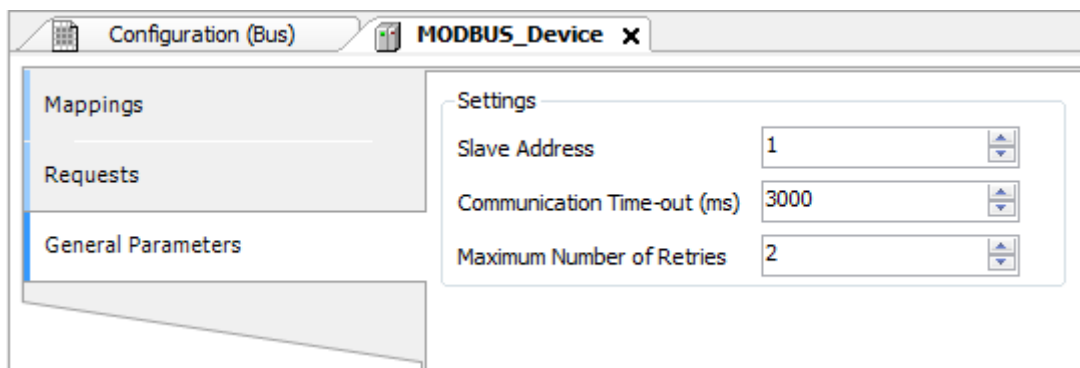

Figure 83: Device General Parameters Settings
- Add and configure devices via the General Parameters tab, defining the slave address, communication time-out and number of communication retries as can be seen in Figure 83.